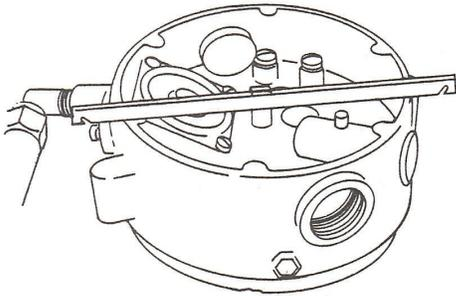

Figure 45. Lever Adjustment
(2) Place secondary Spring in pocket in secondary chamber.
(3) Insert hinge pin in legs of lever and place lever and seat assembly in position and retain with two screws in mounting posts: Check position of spring to make sure it is located on lever boss.
(4) Open valve by hand and allow it to snap closed several times to align seat with orifice.
(5) Use lever Gauge to set lever height. (Figure 45) In case no Gauge is available, measure from a straight edge across face of casting to closest point tip of valve lever. Distance should be 5/16". (See Figure 36) Form valve lever to obtain correct setting.